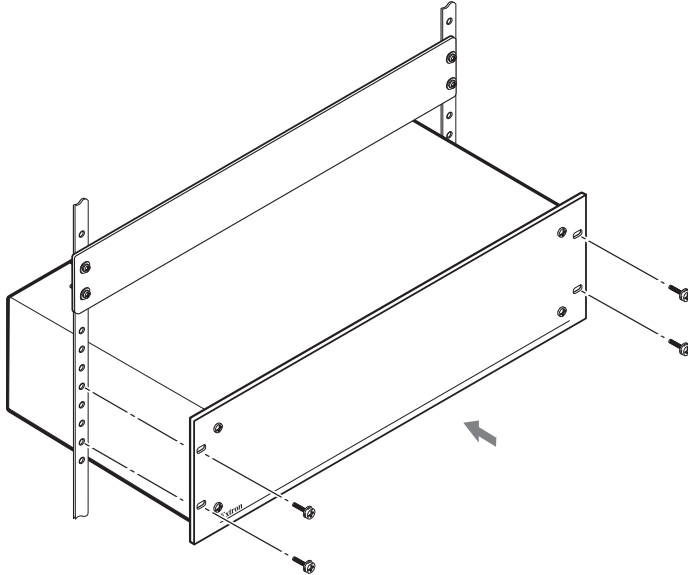

Figure 57. Installing the Switcher in a Rack
1. Insert the unit into the rack, aligning the mounting bracket holes with those in the rack (see figure 57).